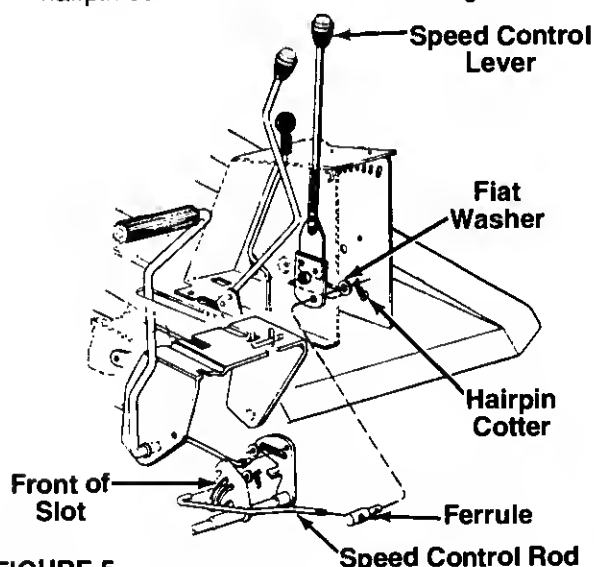

FIGURE 5.
7. Disconnect the speed control rod by removing the hairpin cotter and flat washer. See figure 5.
9. Adjust the rod by threading it in or out of the ferrule until it is all the way to the front of the slot as shown in figure 5.